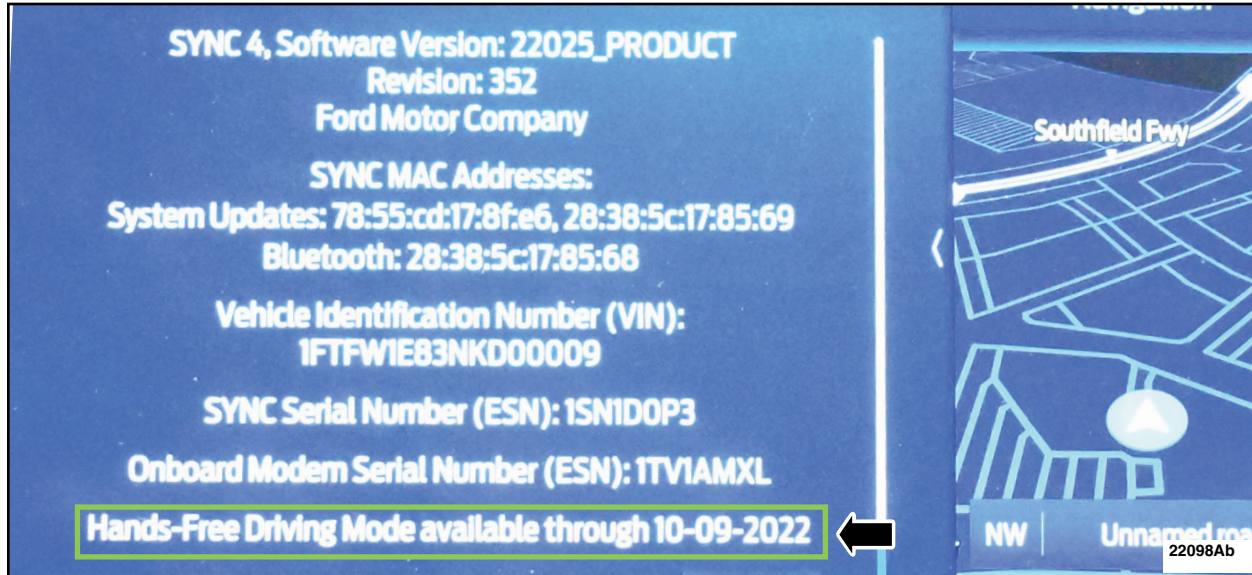

FIGURE 1
3. On the center display screen, navigate to Settings > About SYNC > Hands-Free Driving Mode available through DD-MM-YYYY. Record the expiration date. See Figure 1.